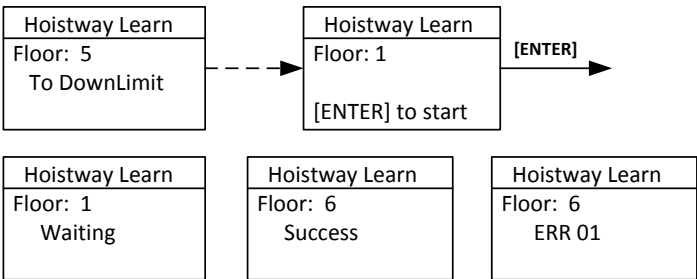

FIGURE 7.3 HOISTWAY PARAMETER SELF-LEARNING PROCEDURES
For synchronous motor, it is necessary to perform motor initial angle tuning. Otherwise the machine cannot run normally, or even sever slip. Therefore, tuning initial angle is very important for synchronous machine. Before proceeding to load run, synchronous machine must first perform initial angle tuning successful and no load running successful. For the tuning procedures, please refer to Figure 7.3.
4. Enter elevator hoistway self-learning menu through digital operator, follow the learning procedures shown below in Figure 7.3.